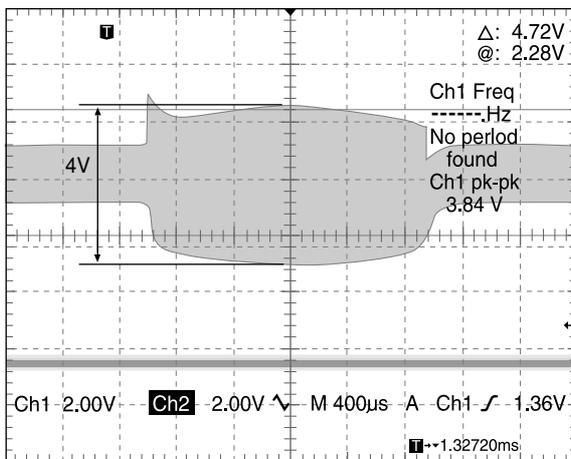

Fig. 4
7) Adjustment of oscilloscope (See Figures 4 and 5.)
- Adjust VR on the CCD board so that the waveform is set to 4 Vp-p using a ceramic adjustment screwdriver. Perform the adjustment described above. The adjustment is satisfactory if the waveform shown in Figure 4 or 5 appears.